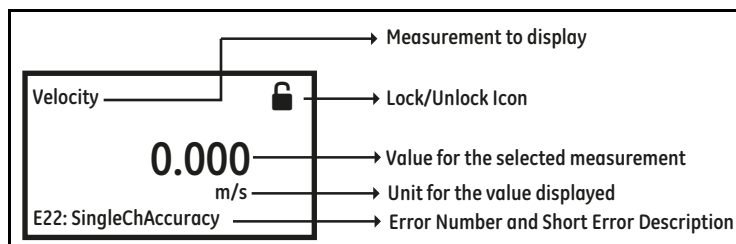

Figure 14: Measurement View
After power up, if the meter’s *Measurement View* (Refer Figure 14) shows a lock icon  on the top right of the display, use the following steps to unlock the meter from keypad lockout mode.
- Finally, the *Measurement View* (Refer Figure 14)
This screen (Refer Figure 14) will be referred to as “*Measurement View*” throughout this chapter. User can choose the measurement to be displayed in this view from a list of options. The Error indicator at the bottom left of the display will be blank if the meter has no error.